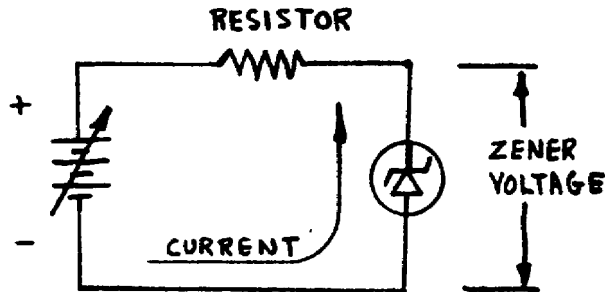

Figure 11. Zener diode circuit.
c. Zener diodes are used in control circuits as reference voltages. Connecting a zener in series with a resistor and power supply will cause a zener regulated voltage. Providing that the battery potential is of a voltage greater than the zener voltage, for any variation of the battery voltage the zener voltage will remain constant (fig 11).